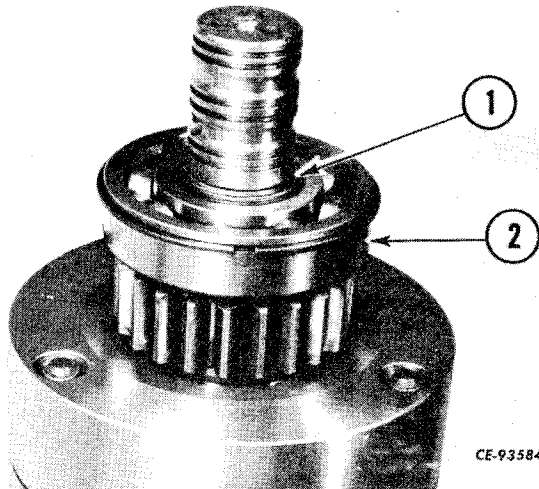

Figure 4-104
Remove retaining ring (1, Fig. 4-104). Use a suitable puller to remove bearing (2).